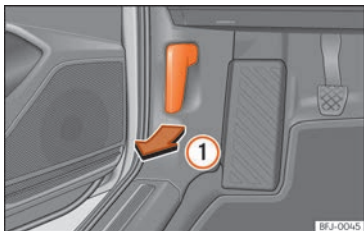

Fig. 13 Release lever in the driver's footwell area.
- Open the door and pull the lever under the dashboard »» Fig. 13 ①.